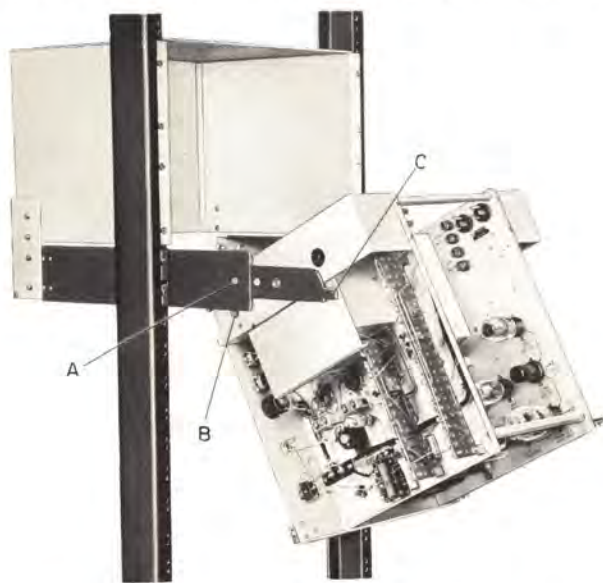

Figure 5. Monitor in 'Forward Tilt' Position.
5.2 FORWARD TILT POSITION. One of the outstanding features of the Type 1181-B Monitor is the ease with which all parts are made accessible for servicing. The monitor can be withdrawn from the relay rack on slides and pivoted to the "forward tilt" position (Figure 5) without interruption of operation.
tons (A) engage. Then push in on the upper front latch buttons (B) so that they clear the slide extensions (C), allowing the monitor to swing downward. Allow the monitor to pivot until it is in the position shown in Figure 5.